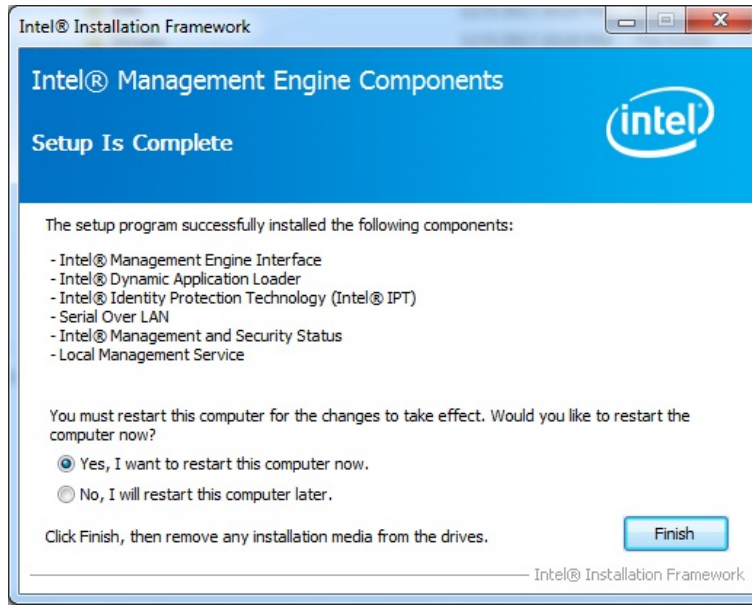

Figure 6-30: Intel® ME Driver Installation Finish Screen
Step 11: The Finish screen in Figure 6-30 appears.